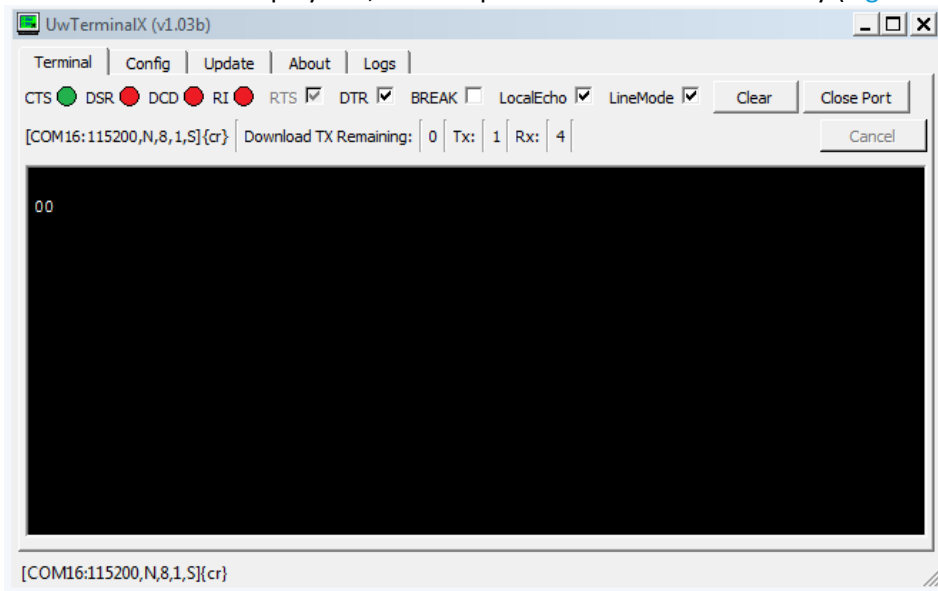

Figure 2: Terminal returns "00" for a successful operation
12. When the terminal displays *00*, the compiler has finished successfully (Figure 2).